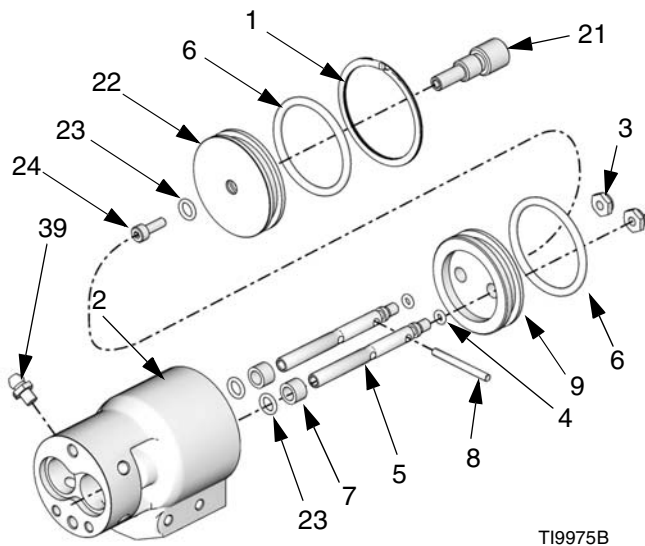

FIG. 6
7. Remove the retaining ring (1) from the back of the air cylinder (2). Push the two shafts (5) into the air cylinder (2) to dislodge the air cylinder cap (22). See FIG. 6.
8. Push the two shafts (5) to dislodge the piston (9) assembly from the air cylinder (2).
9. Use an o-ring pick to remove the o-rings (23) and use a screwdriver to remove the sleeve bearings (7) from the air cylinder (2).
10. Remove the o-rings (6) from the piston (9) and air cylinder cap (22).
11. Remove the screw (24) and snuff-back adjustment knob (21) from the cap (22). Use an o-ring pick to remove the o-ring (23).
12. Remove the lock nuts (3), the pin (8), o-rings (4), and piston o-ring (6) from the shaft (5).
1. Lubricate the shaft o-rings (23) and the bearings (7). Insert o-rings into the air cylinder (2) and air cap (22) cavities. See FIG. 6.
6. **255179 and 255181,** Insert the seals (26) with the springs facing into the fluid housing (14).
7. With the “X” on the nosepiece on the same side as the “MD2” on the air cylinder, install the nosepiece (31) with the o-rings (20), seats (27), and nosepiece screws (19). Tighten the nosepiece screws to 115-120 in.-lb (14-15 N•m).
8. **255181 and 255182,** Install injector tube (30) with assembly tool (48). Torque to 168-192 in.-lb (19.0-21.7 N•m).
9. **255181 and 255182,** Install injector tip (47) and torque to 60-72 in.-lb (6.8-8.1 N•m).
10. Remove zerk grease fitting (39). Fill grease in the grease port below until grease begins to exit where the zerk grease fitting (39) was located. Repeat for the other zerk grease fitting (39). See FIG. 6.